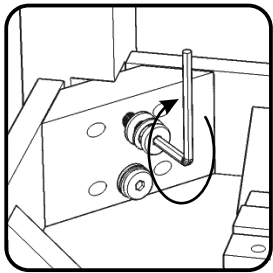

Figure 5
Attach Legs (E) to unit with Flat Washers, Spring Washers and Heat Cap Bolts (long). (See Figure 5)